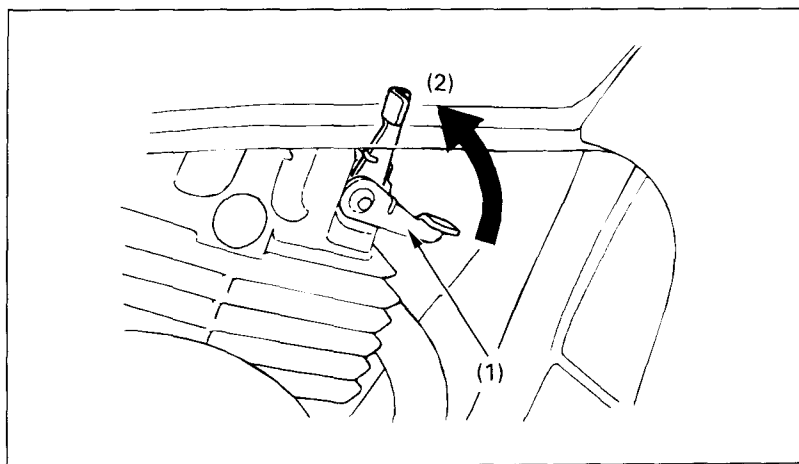

Fig. 2-10      (1) Decompression lever      (2) "Decomp" position
4. Raise the decompression lever (Fig. 2-10), located on the right side of the engine, to the "Decomp" position (2).